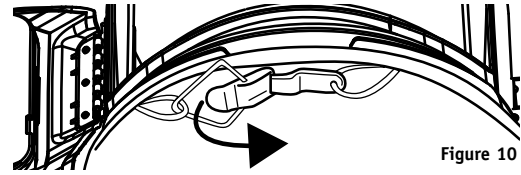

Figure 10
5. Snap the clamp to tighten cable and hold cape snugly on helmet, while ensuring the cape stays in the groove. Latch should be centered in the front, below the chinguard (Figure 10).